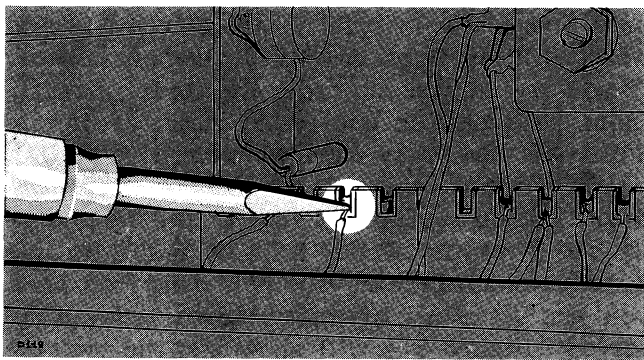

Fig. 5-5. Correct method of applying heat in soldering to a ceramic strip.
4. Apply one corner of the tip to the notch where you wish to solder (see Fig. 5-5).